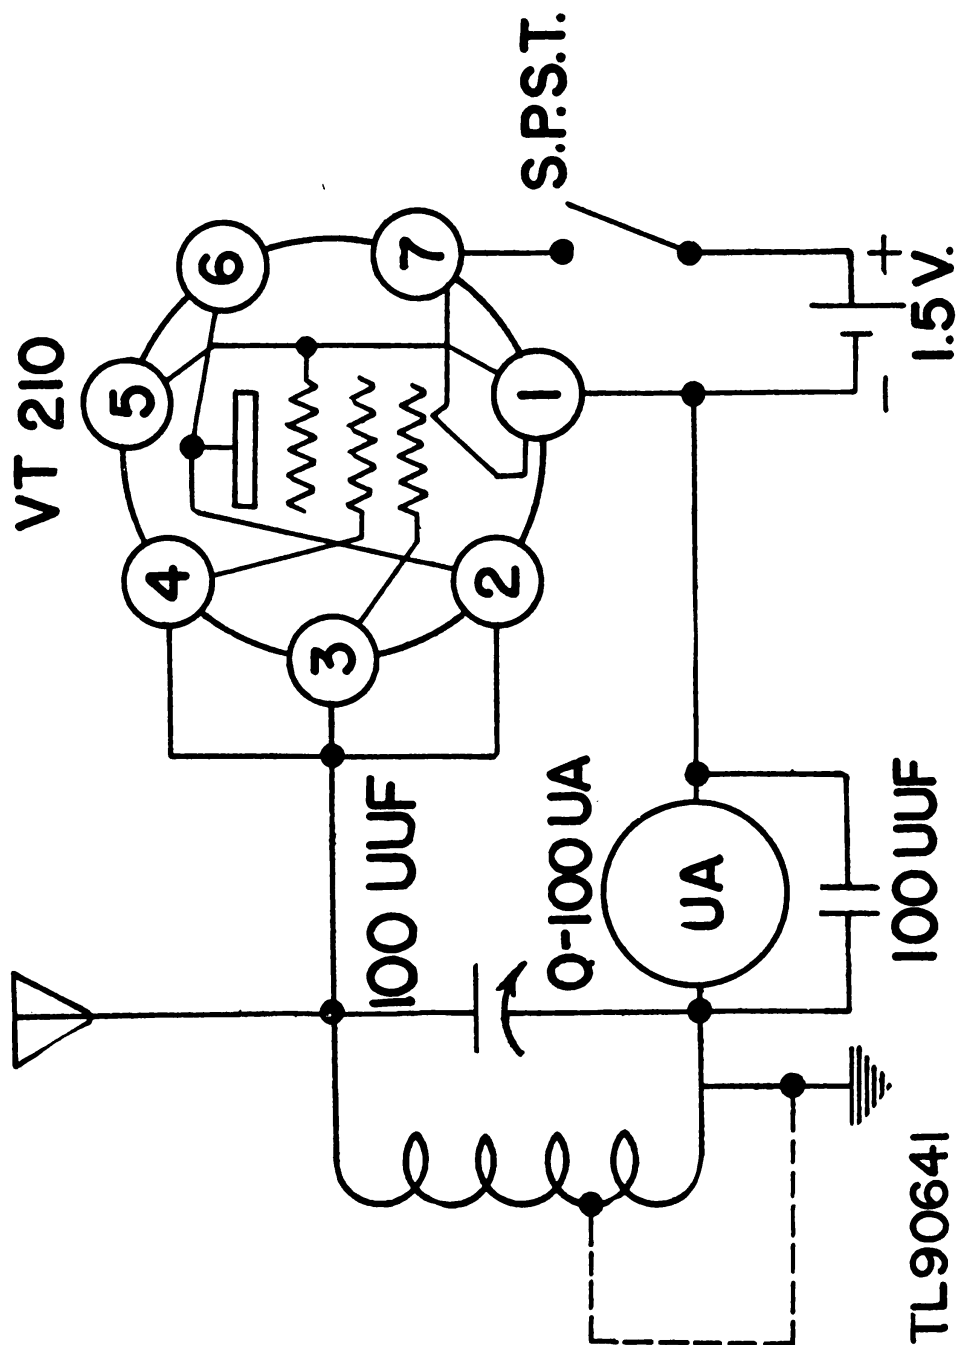

Figure 37. Schematic diagram of tuning indicator.
- b. The control and screen-grid and the diode plate of the 1S4 tube are externally connected to the plate of the tube (fig. 37).